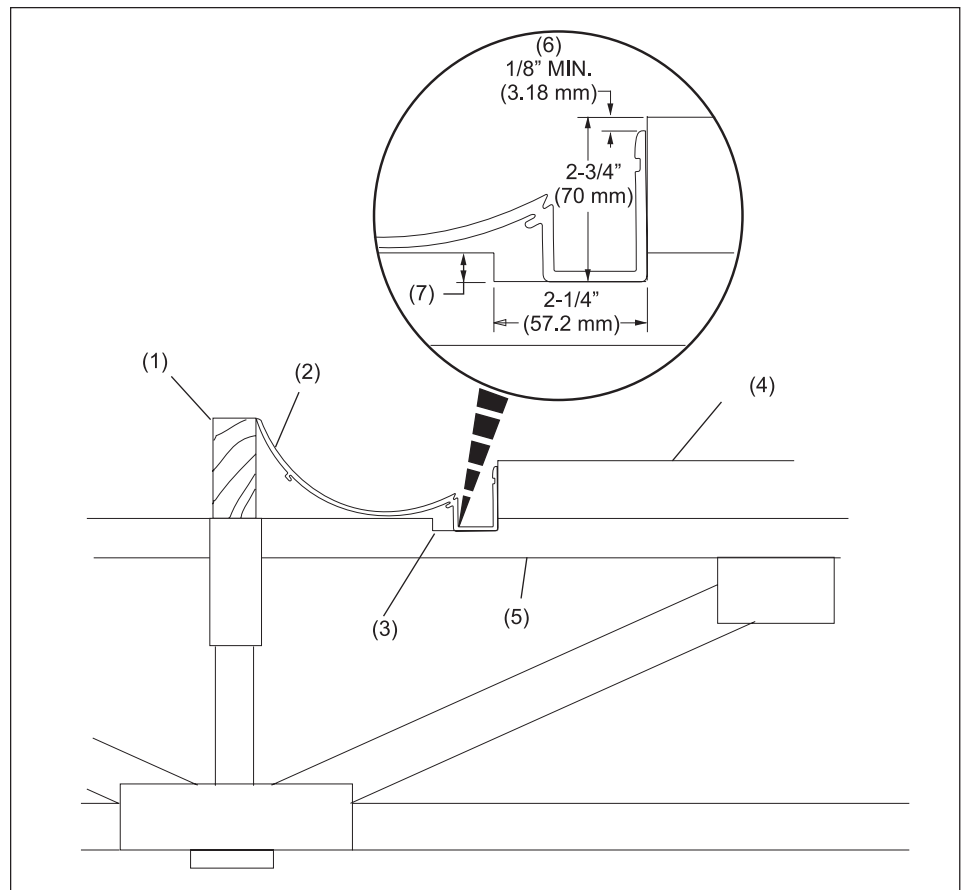

Figure 3. Route Top of Trusses as Required
1. Using a power router or equivalent tool, remove a 2-1/4" (57.2 mm) x 3/4" (15.9 mm) maximum depth section on top surface of truss, parallel to the outside edge of lane. Refer to *Figure 3*.